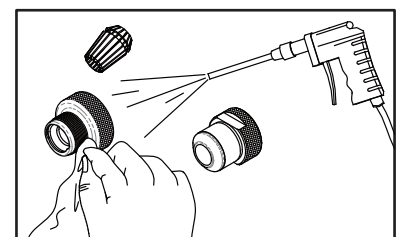
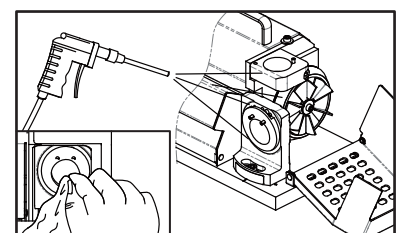

Fig. 12-4
Fig. 12-5
① Unplug the power cord and make sure the power is off.
② Disassemble the chuck set after use.
③ Use the air press gun to clean the scraps and dust out of all grinding shelves and all the accessories. (Fig. 12-4) (Fig. 12-5)
④ Use clean cloth to clean each contact port and all the accessories, then put them back in order. (Fig. 12-4) (Fig. 12-5)